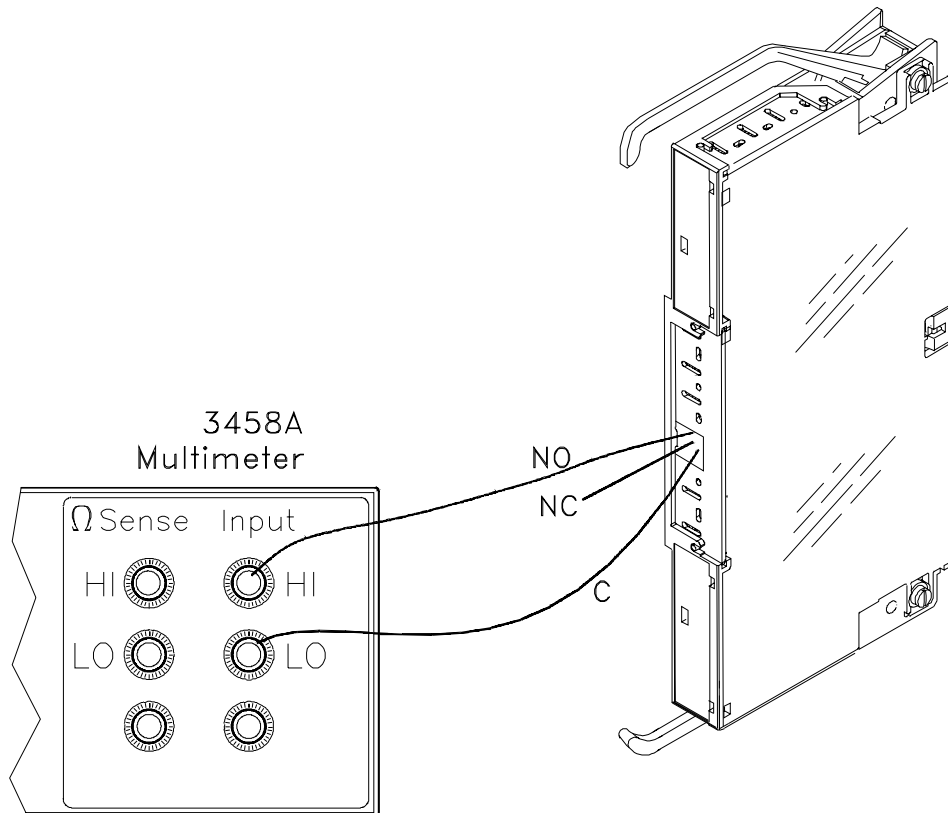

Figure 2-4. NC to NO Isolation
1. Make hardware connections as shown in Figure 2-4